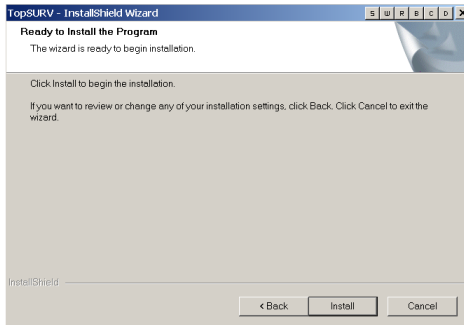

Figure 1-5. Select device
5. Click **Install** to begin (Figure 1-5).